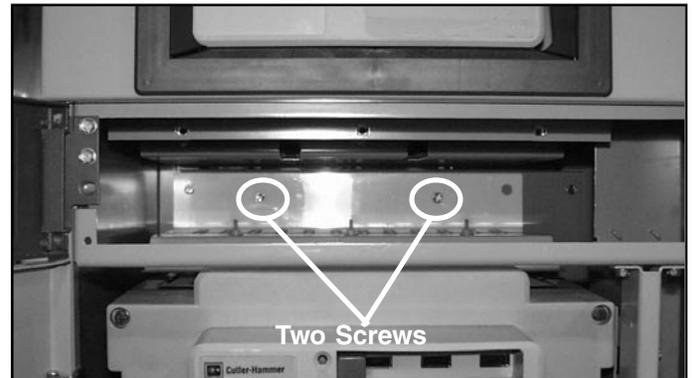

Figure 3-5.6
Step 6. The line side barrier is removed by disconnecting the two screws from the rear cell back pan (Figure 3-5.6). Then slide the line side barrier forward.